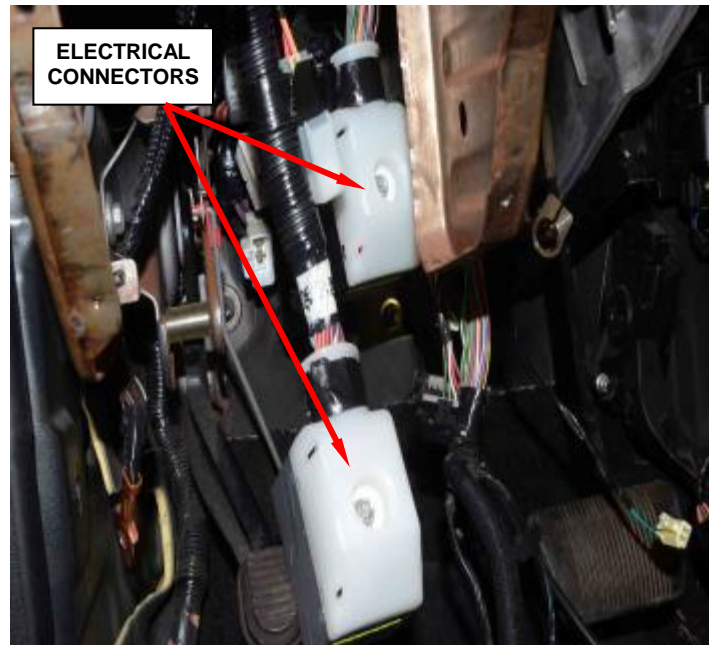

Figure 139 – Electrical Connectors
19. Loosen the screws and disconnect the electrical connectors (Figure 139).